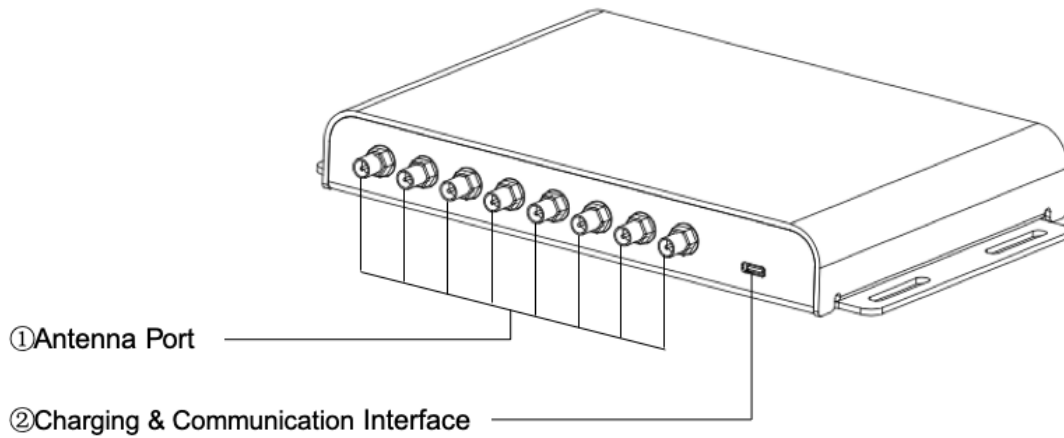

FIG. 1-3-1 Product appearance (front)
Please connect the RF cable of the antenna to the antenna interface of Wired BOX-Type (See FIG. 1-3-1①). It can connect up to 8 antennas. Tighten the screw of the connector without loosening it. If the connector is loose, reading performance will be degraded.
Please connect the attached Lightning cable or USB Type-C cable to the USB-C port on the Wired BOX-Type and connect it to your iOS device (see FIG. 1-3-1②).